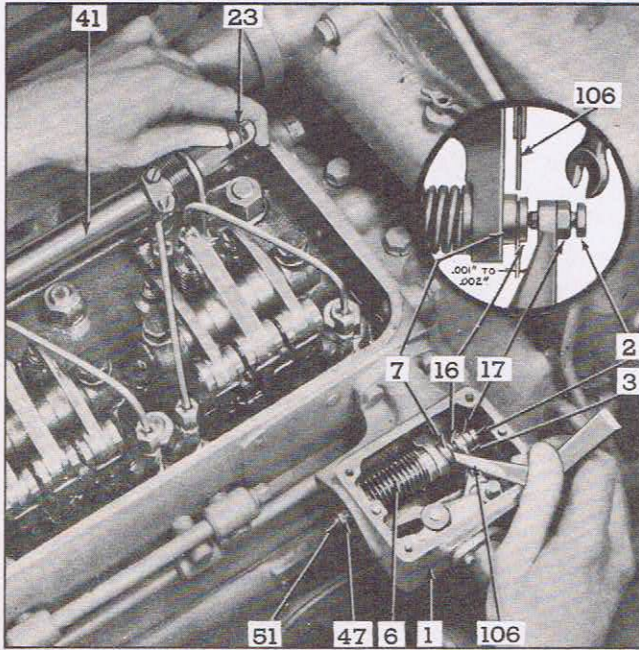

FIG. 8—MEASURING GOVERNOR LOW-SPEED SPRING PLUNGER GAP.
I. Governor Spring Plunger Gap Adjustment. After checking valve lash, timing injectors, and giving injector racks a preliminary positioning to assure engine "shut down", refer to Fig. 8 and adjust plunger gap as follows:
1. Remove the governor spring cover at the rear of the governor control housing (1) and set the low-speed adjusting screw (51) so that it projects $\frac{1}{8}$ " to $\frac{3}{16}$ " from the lock nut (47).
2. Remove the governor cover and the link between the governor and the injector control tube (41).
3. Start the engine and with the aid of a helper, regulate the speed by hand operation of the injector control tube lever (23), as shown in Fig. 8.